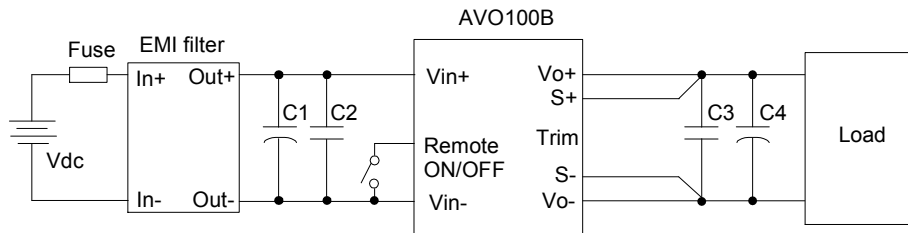

Figure 11 Typical application
Figure 4 Dynamic response for 25% load step (50% ~ 75% ~ 50%) and 0.1A/µs slew rate, (2ms/div), see Figure 11 for test configuration; CH1-output voltage (50mV/div); CH2-output current (10A/div)
Figure 5 Dynamic response for 25% load step (50% ~ 75% ~ 50%) and 1A/µs slew rate, (2ms/div), see Figure 11 for test configuration; CH1-output voltage (200mV/div); CH2-output current (10A/div)
If the load is far from the unit, connect S+ and S- to the terminal of the load respectively to compensate the voltage drop on the transmission line. See Figure 11.
C1 ~ C4: See Figure 11
- C1 ~ C4: See Figure 11